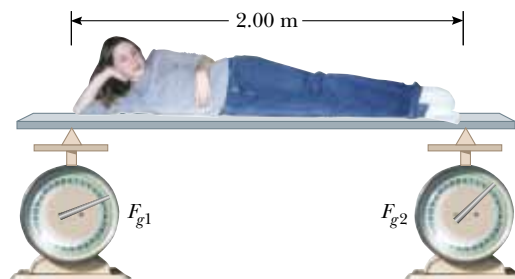

Figure P12.63
63. In exercise physiology studies it is sometimes important to determine the location of a person's center of mass. This can be done with the arrangement shown in Figure P12.63. A light plank rests on two scales, which give readings of $F_{g1} = 380$ N and $F_{g2} = 320$ N. The scales are separated by a distance of 2.00 m. How far from the woman's feet is her center of mass?